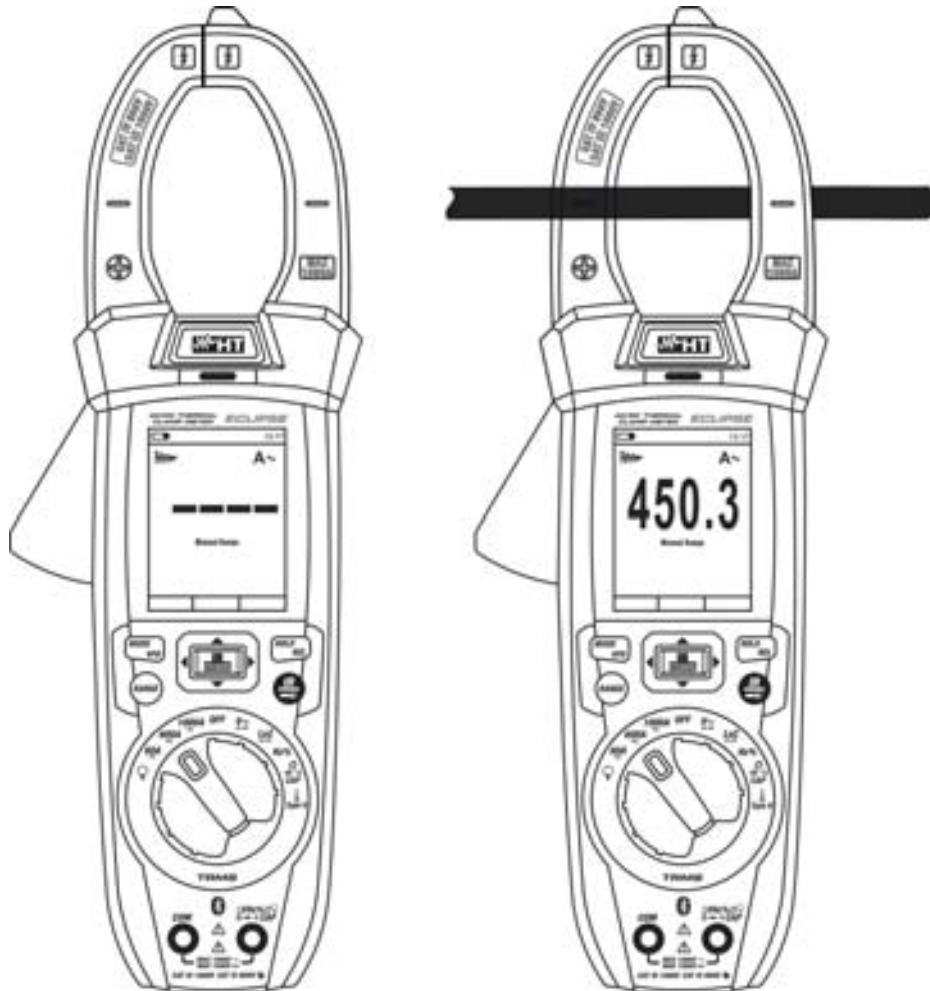

Fig. 33: Use of the instrument for AC Inrush current measurement
3. Long press the key **INRUSH** to activate the “INRUSH” function. The “ $\sim$ ” and “- - -” symbols appears at display (see Fig. 33 – left side)
4. Put the conductor to be tested inside to the center of clamp jaw (see Fig. 33 – right side) in order to perform accurated measurements. Consider the notches on jaws as reference (see Fig. 3)